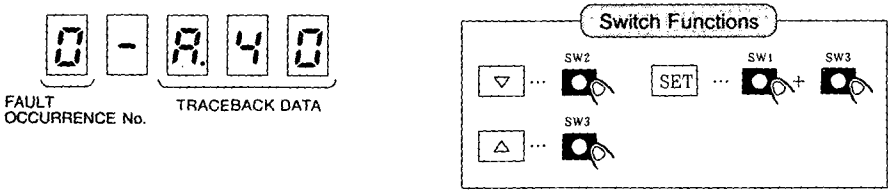

Fig. 6.1 Switch Functions in Fault Traceback Mode
- For the relationship between traceback data and fault descriptions, refer to Table 6.1. The switch functions are indicated in Fig. 6.1.